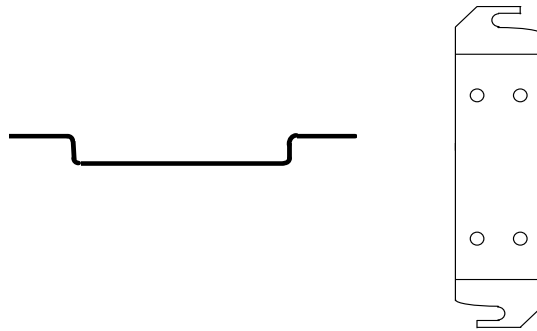

Figure 3-21
- i. Attach the mounting bracket between the base of the CG-6P lampchanger and flasher with four 10-32x1" screws supplied so that the dip in the bracket is down, as shown in Figure 3-21. The wires from the WK-681 wiring kit must pass **under** the bracket. Attach the bracket to 300mm tripod by turning the assembly onto the studs, and then tighten the wing nuts.